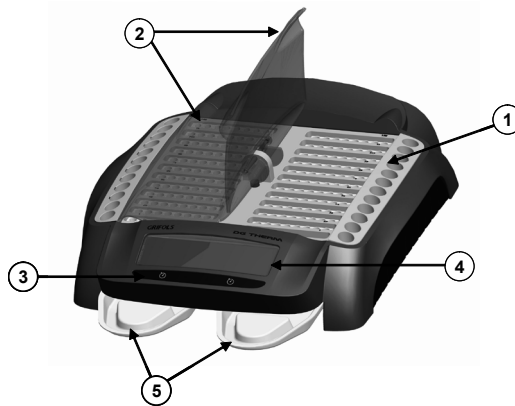
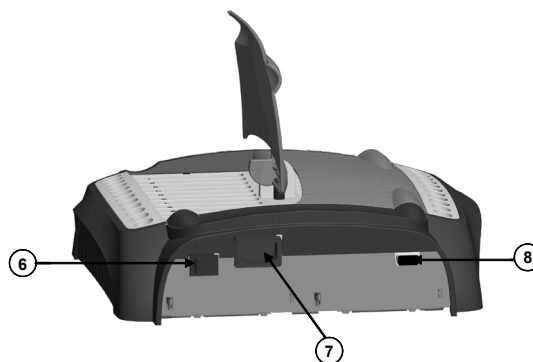
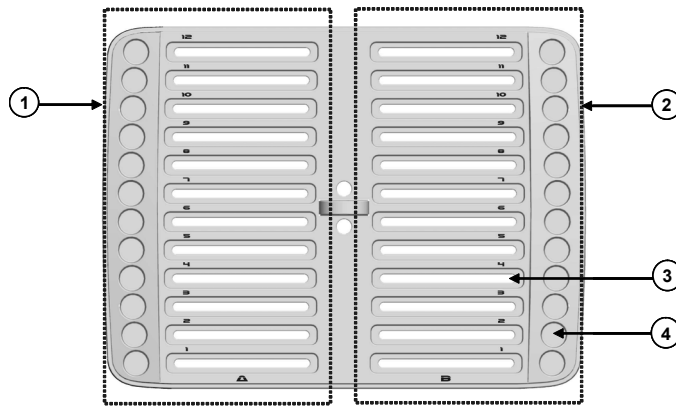

Figure 4: Front View of DG Therm Incubator
Figure 5: Rear View of the DG Therm Incubator
Figure 6: Thermal Block
The biohazard label (Figure 3) is placed on the flap of the *DG Therm* Trays (No.5, Figure 4) and the thermal block (Figure 6). It warns the OPERATOR about potential biological risks caused by remaining substances deposited on the surfaces of the incubator and especially on the trays.
Figure 4 and Figure 5 below show the front and the rear views of the DG Therm incubator.
The Thermal block shown in No.1 of Figure 6 is the area of the incubator designed to place *DG Gel Cards* and sample tubes for their heating at 37°C for the pre-established time.
As shown in Figure 6, the Thermal block is divided into two Incubation areas (Nos. 1 and 2). Each one has a capacity of 12 *DG Gel cards* (No. 3) and 12 sample tubes that are aligned with the cards (No. 4).
The *DG Therm* incubator has two coverings that fold laterally (No. 2, Figure 4). When closed, they keep the cards down to assure an optimum incubation of the *DG Gel Cards*.
The *DG Therm* incubator has two Start/Stop Buttons as shown in No. 3 of Figure 4, button **P**  (No.1, Figure 7) and button **P**  (No. 2, Figure 7), that allow starting and stopping independently for the two incubator timers.
DG Therm Trays (No. 5, Figure 4) are disposable and are located in the lower part of the incubator. They are used to collect any remains of samples or any other substance from accidental spillage during the use of the equipment.
- Do not position the equipment so that it is difficult to operate the mains switch. (No.6, Figure 5).
- Connect the mains cord to the incubator (No.7, Figure 5) and the mains.
- Switch on the Main switch (No.6, Figure 5).